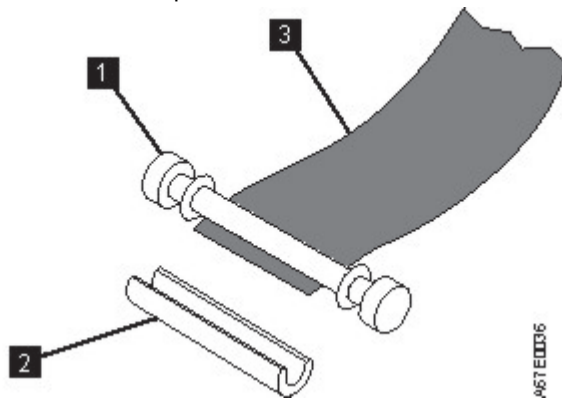

Figure 108. Removing the C-clip from the leader pin
5. On the leader pin (1 in Figure 108 on page 233), locate the open side of the C-clip (2). The C-clip is a small black part that secures the tape (3) to the pin.